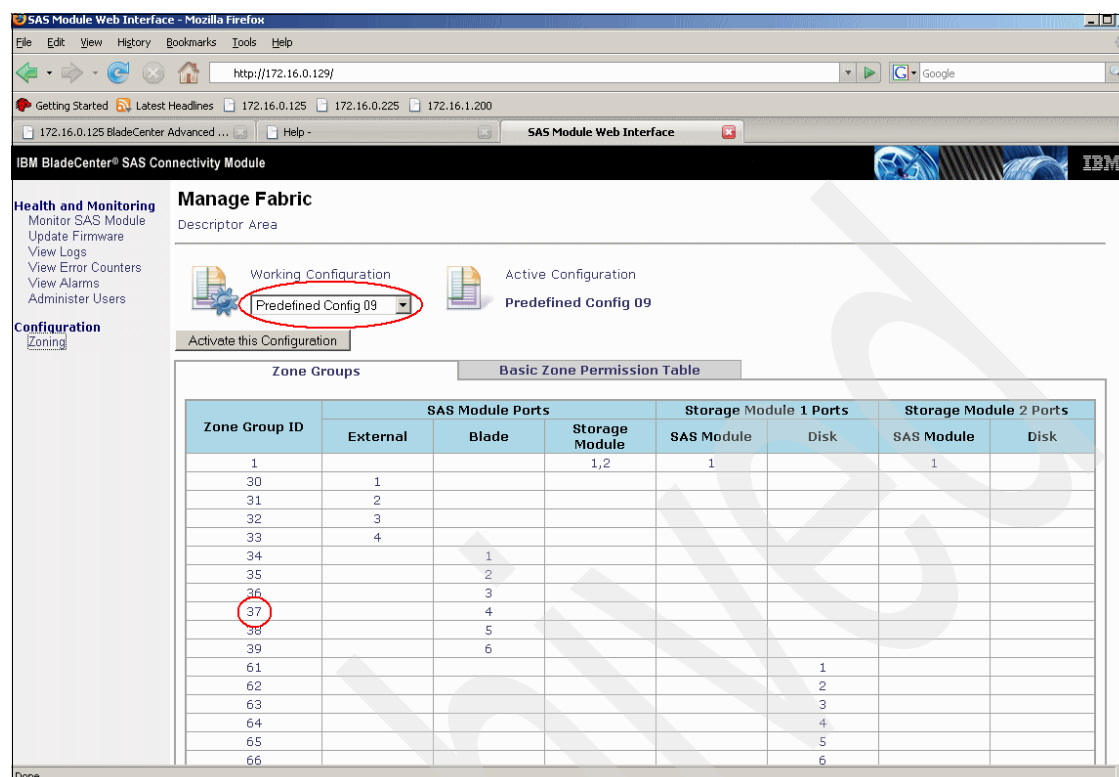

Figure 7-6 SAS connection module zone groups
2. Select **Zoning**. In the Manage Fabric panel, shown in Figure 7-6 on page 249, **Predefined Config 09** is selected and active. Notice that our BladeCenter JS23/JS43 installed in slot 4, Zone Group ID 37 is configured. Remember the Zone Group ID for the following window to examine the corresponding hard disk drives.